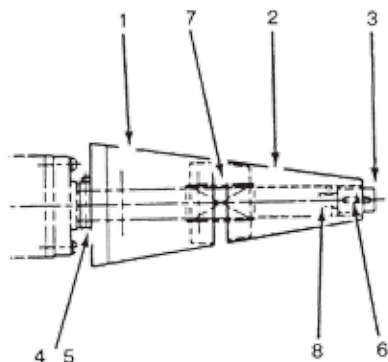

Figure 2
3. Install mandrel parts on mandrel shaft (See Figure 2 for correct assembly of mandrel to shaft).